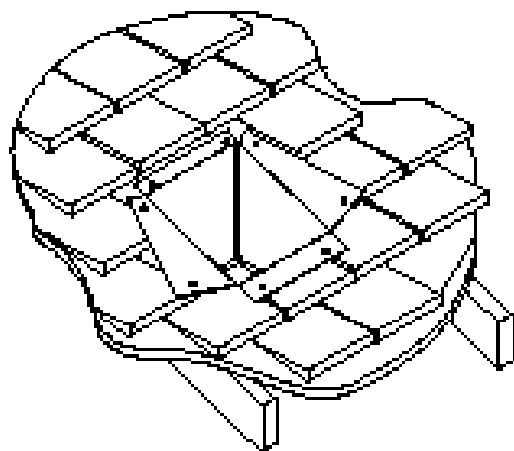

Figure 21
Step 5. Using tin snips, cut the Support Box from the top corners down to the roofline, and fold the resulting flaps over the roof sheathing. The flaps may be trimmed as needed (Fig. 21). Before nailing it to the roof, run a bead of non-hardening sealant around the Support Box, to make a seal between the Support Box and the roof. Clean out any combustible material from inside the Support Box.